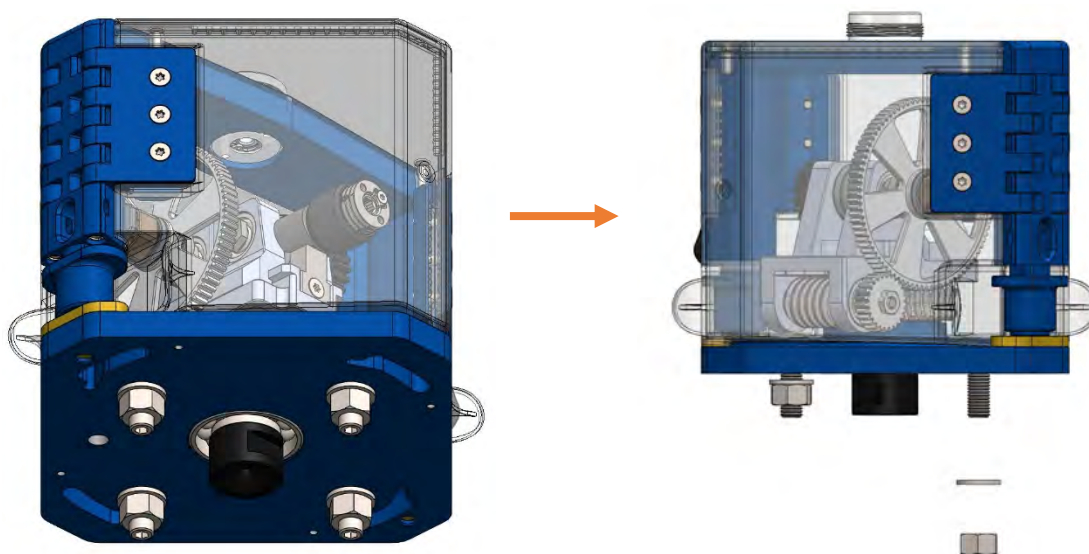

Figure 9
3. Unscrew the 4 nuts and remove the 4 washers that you will find pre-assembled on the Twister. Figure 9.